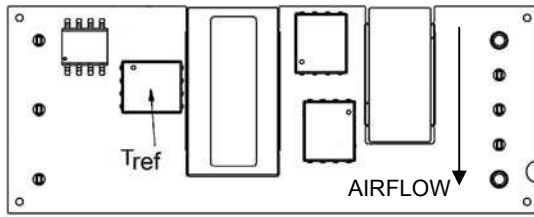

Figure 13.  $T_{ref}$  Temperature Measurement Location for Open Frame Module.
To provide protection under certain fault conditions, the unit is equipped with a thermal shutdown circuit. The unit will shutdown if the thermal reference point  $T_{ref}$  (Figure 13), exceeds  $130^{\circ}C$  (typical), but the thermal shutdown is not intended as a guarantee that the unit will survive temperatures beyond its rating. The module can be restarted by cycling the dc input power for at least one second or by toggling the remote on/off signal for at least one second. If the auto-restart option (4) is ordered, the module will automatically restart upon cool-down to a safe temperature.
The thermal reference point,  $T_{ref}$  used in the specifications for open frame modules is shown in Figure 13. For reliable operation this temperature should not exceed 117°C.